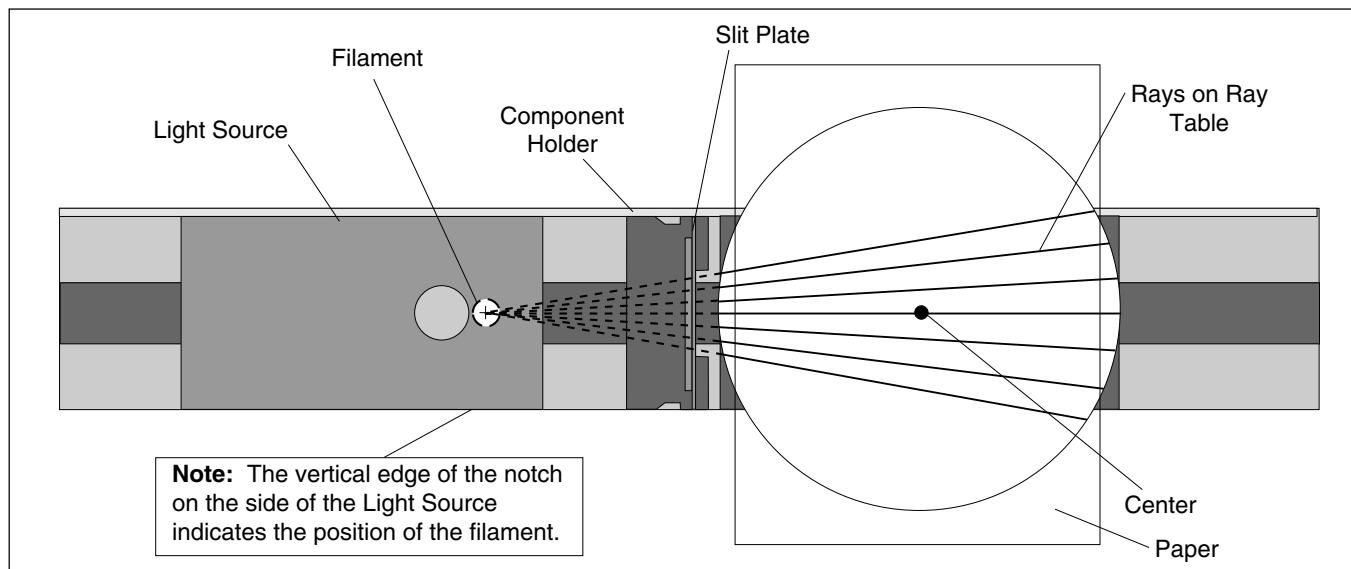

Figure 1.2: Ray Tracing
You can use the fact that light propagates in a straight line to measure the distance between the Light Source filament and the center of the Ray Table. Figure 1.2 shows how. The rays on the Ray Table all originate from the filament of the Light Source. Since light travels in a straight line, you need only extend the rays backward to locate the filament. (See Step 3 in the first part of this experiment.)
- ② Use the metric scale on the Optics Bench to measure the distance between the filament and the center of the Ray Table directly (see the note in Figure 1.2).